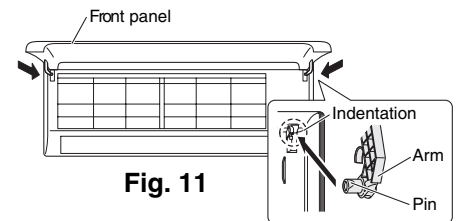
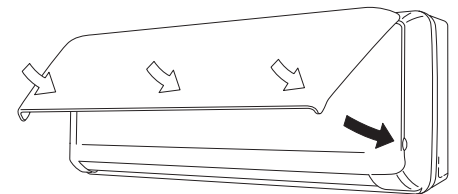

Fig. 11
Fig. 12
- (1) Insert the bottom of the grille into the frame.
- (2) While aligning both edges of the grille with the frame, move the grille horizontally and insert the top and bottom into the frame.
- (3) Press the grille firmly with your hand to ensure no gap exists between the frame and grille.
- (4) Tighten the 4 screws.
- (5) Grasp the sections near the front panel arms on both sides, and hold the front panel so that it is nearly horizontal. Push the arm shafts towards the outside so that they come into contact with the top of the indentations on the right and left sides of the air conditioner. Then push firmly until the arm shafts click into place. (Fig. 11)
- (6) Insert the top of the anti-mold filter, and then fit the protrusions on the bottom of the filter all the way into the hooks on the unit.
- (7) After closing the front panel, press firmly on the parts indicated by the arrows to securely fasten the panel in place. (Fig. 12)